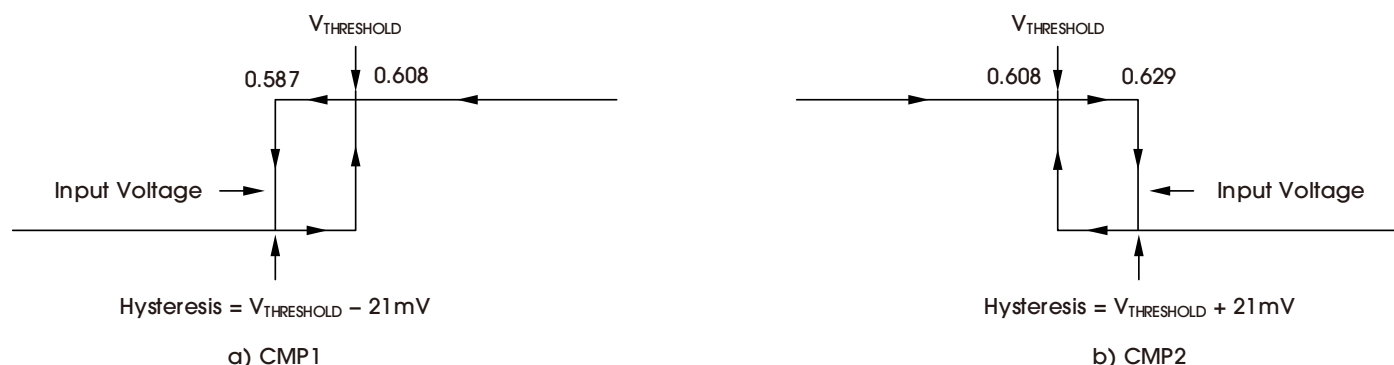

Figure 2. Comparator Hysteresis
- Note 1: Hysteresis refers to the threshold (the threshold specification applies to a rising edge of a noninverting input) of a falling edge on the noninverting input of the comparator; refer to Figure 2.